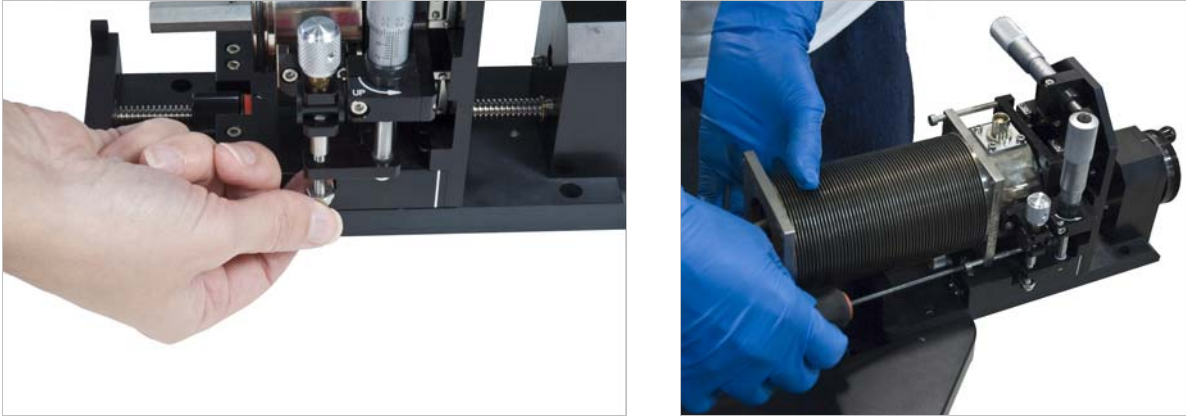

FIGURE 5-29 Left: Thread the nut onto the bottom of the shaft; Right: Tighten the four long horizontal M4 screws
6. Using small pliers or an adjustable wrench, thread the nut onto the bottom of the shaft until the end of the shaft is flush with the nut (FIGURE 5-29).